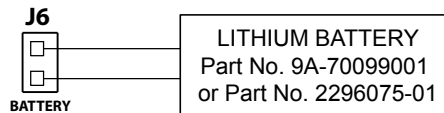

Figure 2.4—Lithium battery wiring diagram
1. Connect the power supply. See Figures 2.4 through 2.6, page 12.